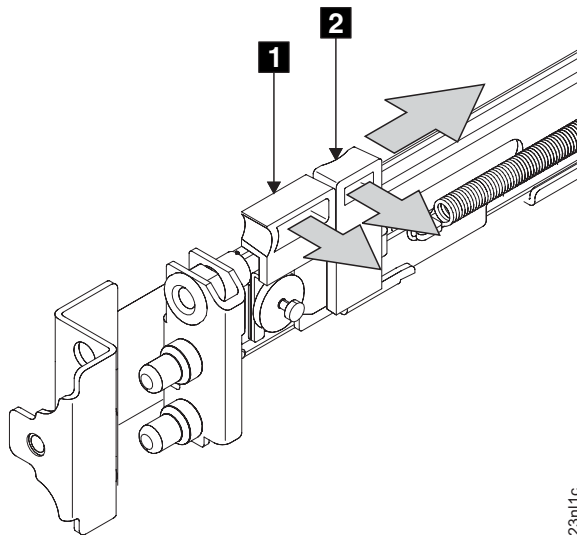

Figure 34. Opening the front latch-lock carrier assembly
3. Gently push the latch lock **2** away from the rail as you move the latch lever **1** toward the far end of the rail (Figure 34). The latch-lock carrier assembly slides against the spring tension.